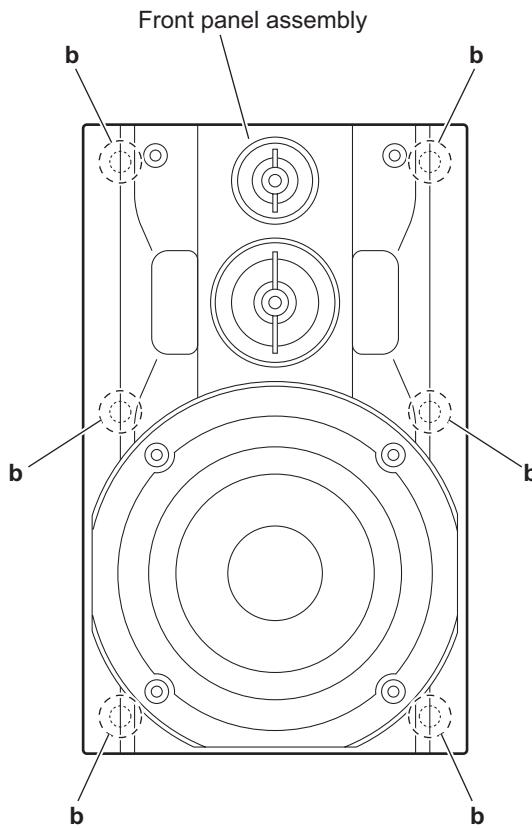

Fig.2
(See Figs.2 to 4)
(1) Insert the tip of a flat-bladed screwdriver or similar tool into the space between the speaker main body and front panel assembly, and lift the front panel assembly little by little to remove the sections **b**. (See Figs.2 and 3.)